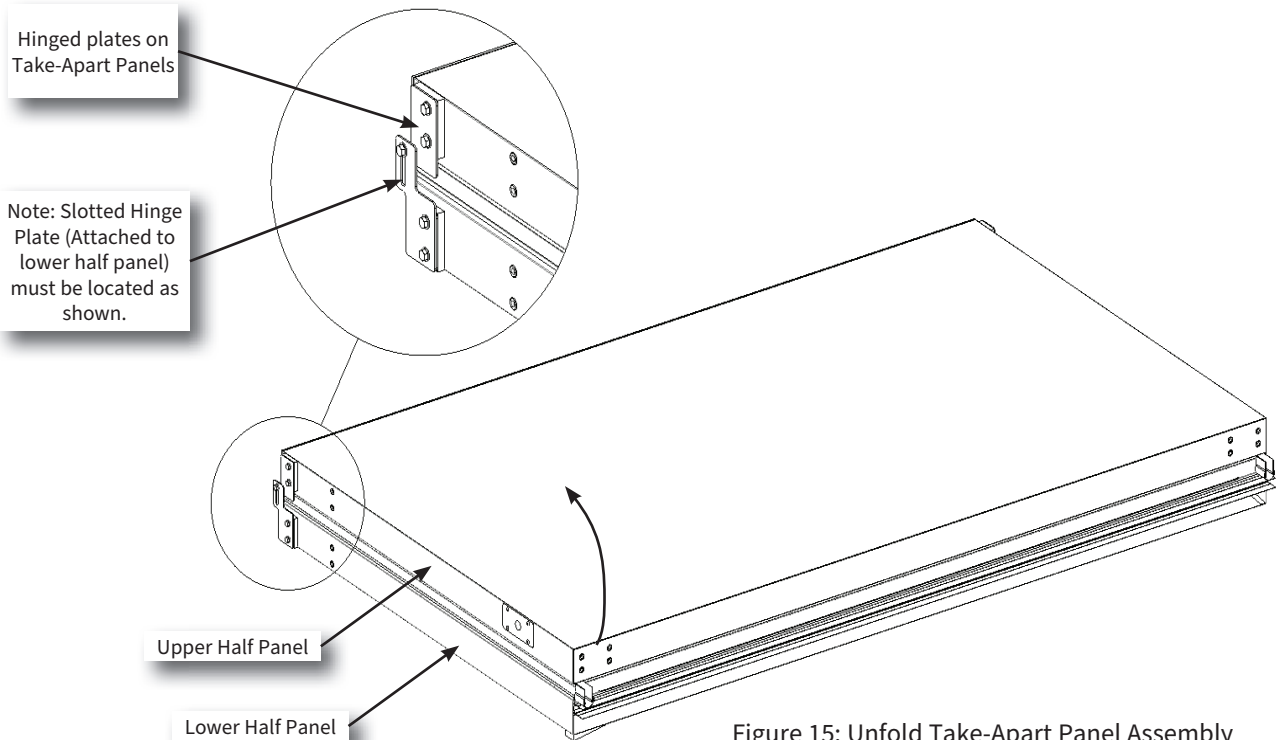
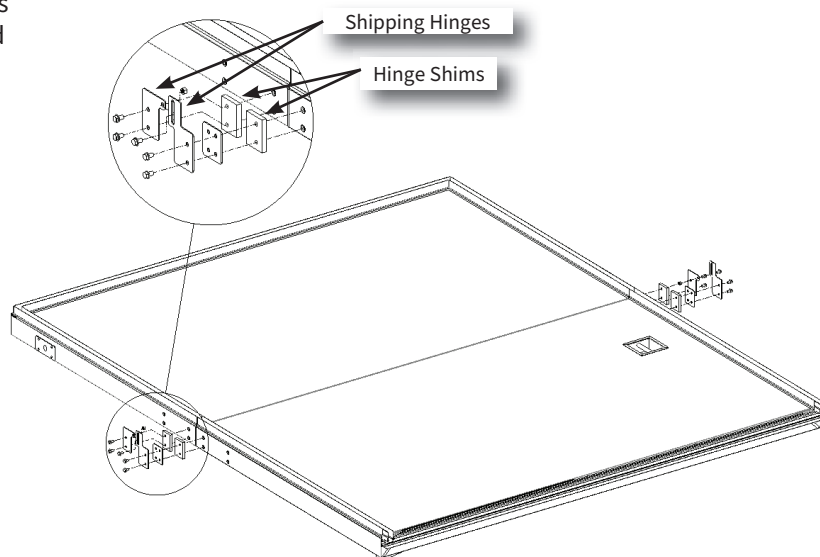

Figure 15: Unfold Take-Apart Panel Assembly
Figure 16: Remove Shipping Hinges
- 2 Un-fold Door Panel (Figure 15) so that both halves are in position with front side of panels down, rear sides of panels with gaskets, facing up (Figure 16).
- 3 Un-bolt Shipping Hinges and Shims from both sides of Door Panels and discard (Figure 16).